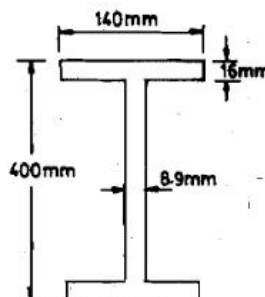

Fig.6
10. The section shown in Fig.6 is ISMB 400. Calculate plastic moment  $M_p$ , and shape factor. Take  $\sigma_y = 250$  MPa.